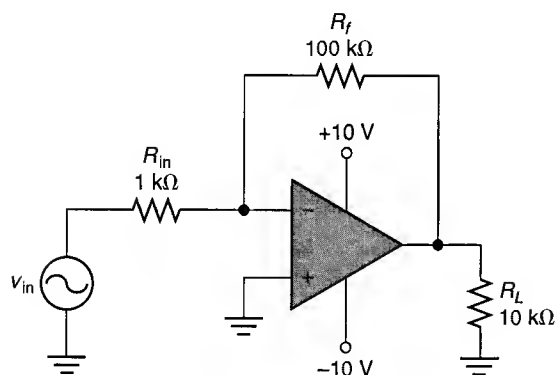

FIGURE 15.67
33. The circuit shown in Figure 15.67 has a measured f_{C2} of 250 kHz. What is the value of f_{unity} for the op-amp?
41. Calculate the values of A_{CL} , $Z_{in(f)}$, and $Z_{out(f)}$ for the circuit shown in Figure 15.67. Assume that the op-amp has the following ratings: $A_{OL} = 200,000$, $Z_{in} = 5 \text{ M}\Omega$, and $Z_{out} = 100 \Omega$.